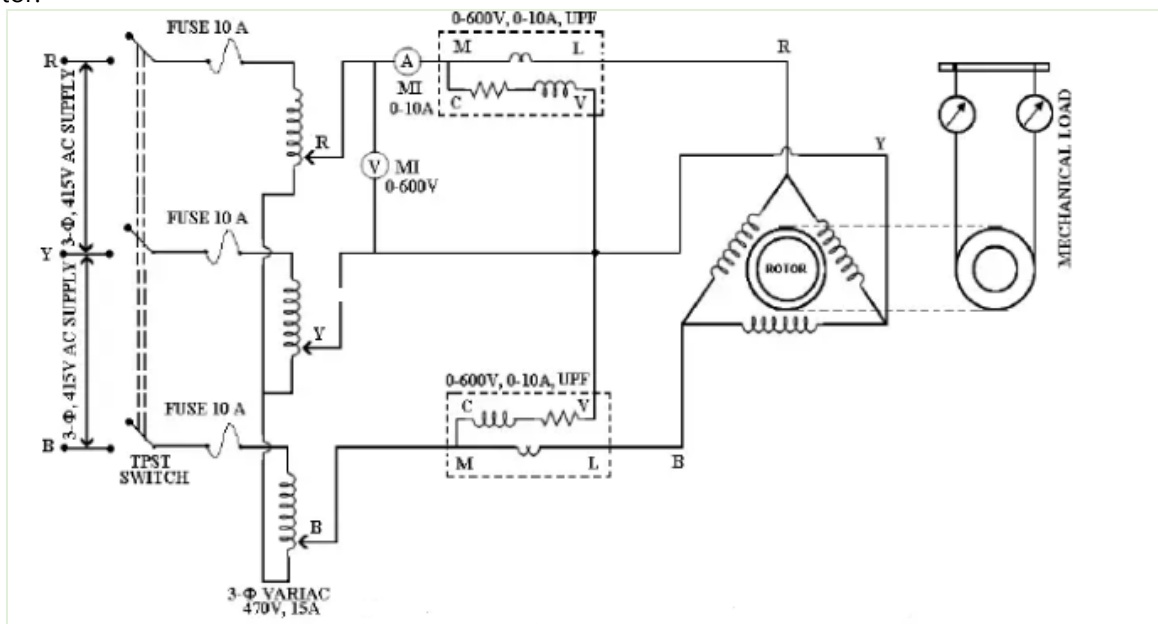

Figure 8 - CIRCLE DIAGRAM OF THREE PHASE SQUIRREL CAGE INDUCTION MOTOR
1. Calculate the efficiency of Squirrel cage IM under different load conditions from Figure 8.